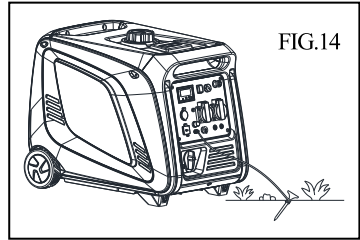

FIG.14
- It is advisable to properly earth your generator before starting using a wire and a small metal earth spike. The wire and earth spike are not supplied with the unit. **FIG.14**